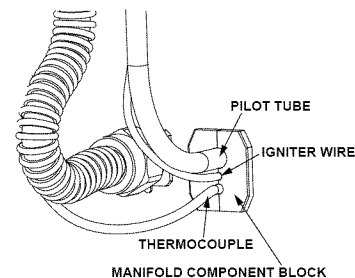

FIGURE 35.
12. Position the new pilot tube through the largest opening of the manifold component block. **NOTE:** The largest opening should be located at the top position. The igniter wire should be located in the middle opening and thermocouple in the bottom opening. (Figure 35)